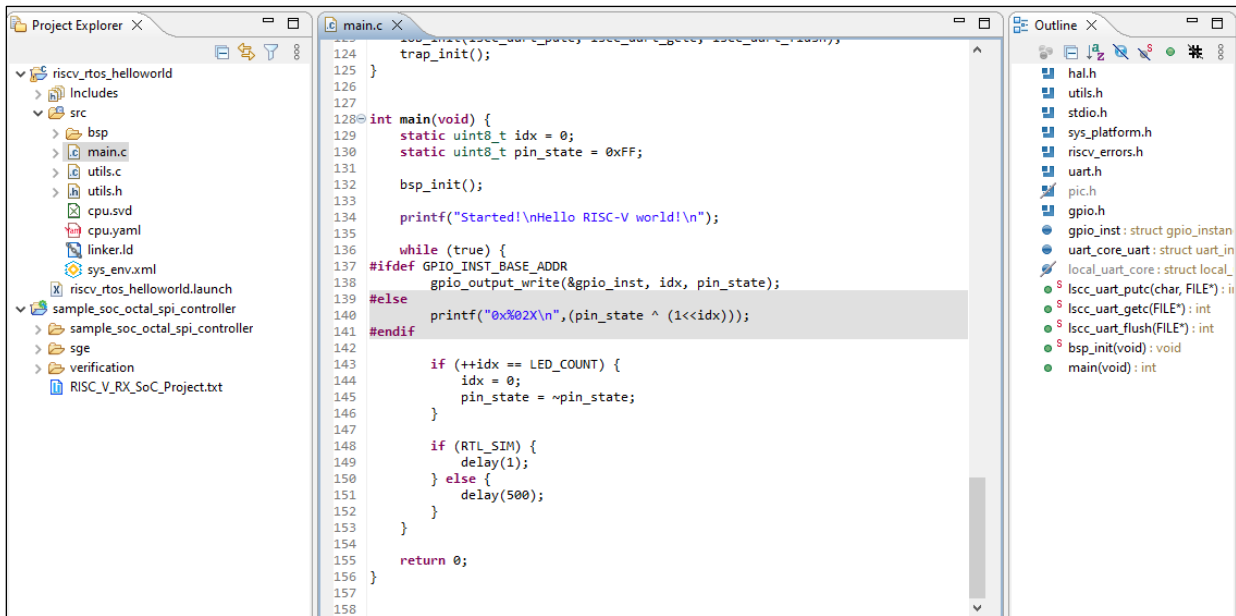

Figure 6.8. Build C/C++ Project Result
4. Update the **Project name** field, then click **Next** followed by **Finish**. The C/C++ Hello World project template is as shown in Figure 6.8.